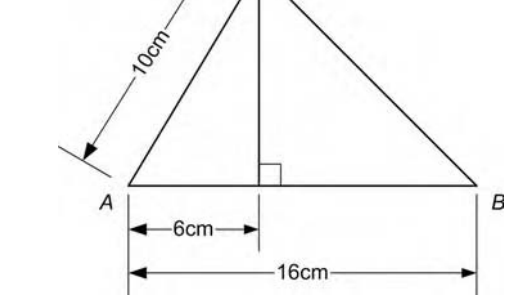

Figure 2.57
86. For the triangle shown in Figure 2.57, what is the value of $\cos B$? [B1, B2]